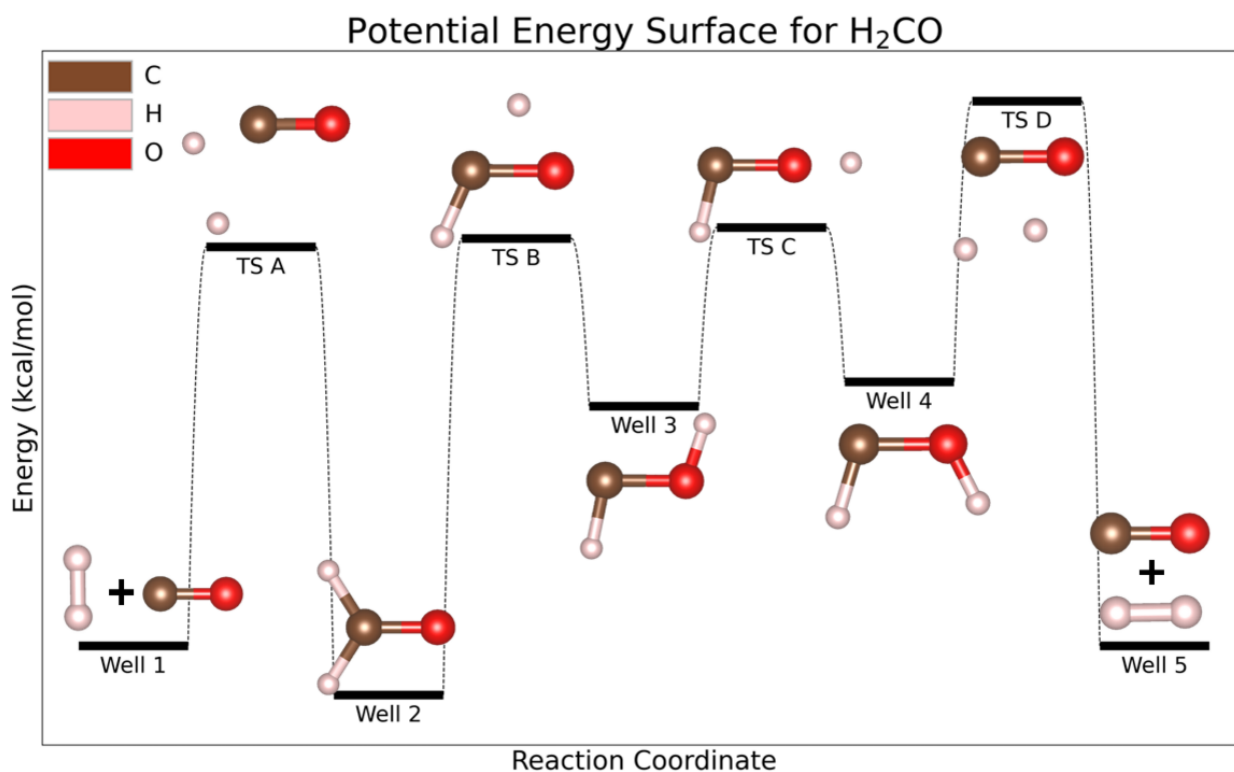

Figure 1: Visualized Potential Energy Surface of H₂CO
1. By using ORCA we are going to characterize the reaction pathway shown in Figure 1. Each reaction to be characterized is described below:
- Well 1 and Well 5: Hydrogen gas (H₂) and carbon monoxide (CO)
6. Use your preferred graphing code and create the potential energy surface graph (your results of Figure 1) without ZPE correction and with ZPE correction in kcal/mol. Ensure your energy values are normalized to Well 2 (Formaldehyde). You may add a label on the horizontal bars for each minima/maxima describing what structure it is (shown in Figure 1) and what relative energy it is located at. Note the x axis is an arbitrary axis and is called the Reaction Coordinate.